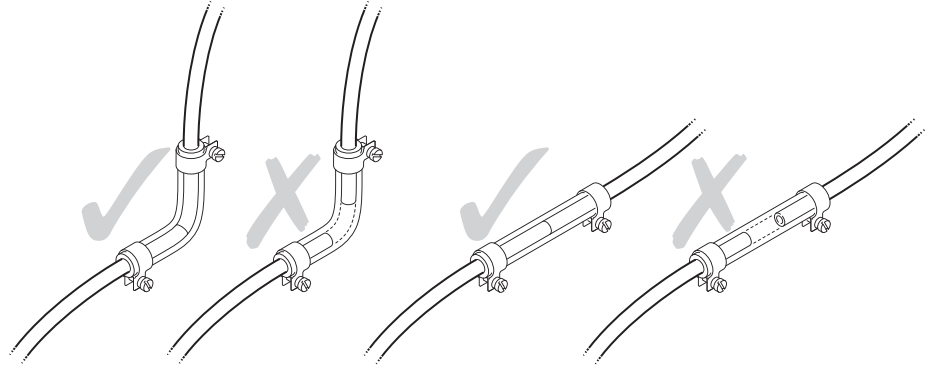

Figure 18. Hose Connections.
- Cut fuel line with a sharp knife on a solid surface and ensure all cuts are square with no burrs or pinching (refer to figure 18).